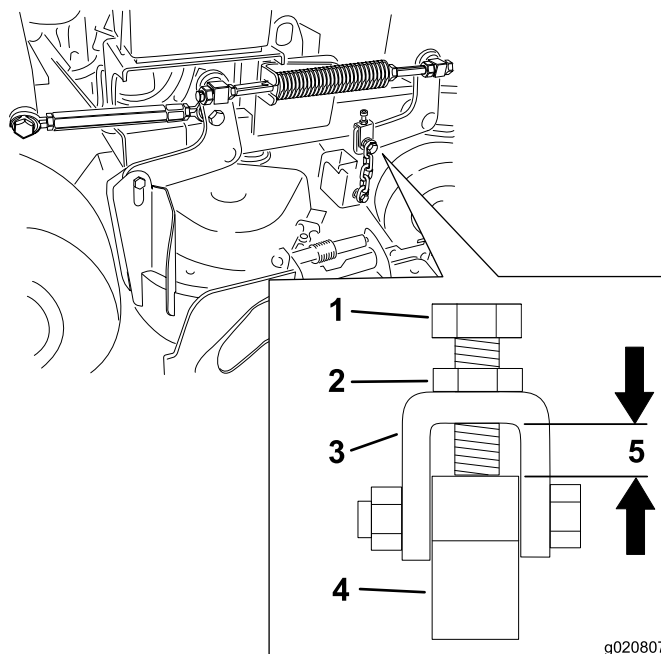

Figure 82
10. Check the distance between the yoke and the deck hanger arm at each yoke. This distance needs to be 11 mm (7/16 inch). See Figure 82.
12. Loosen the jam nut and adjust the adjustment bolt to achieve the correct distance shown in Figure 82.